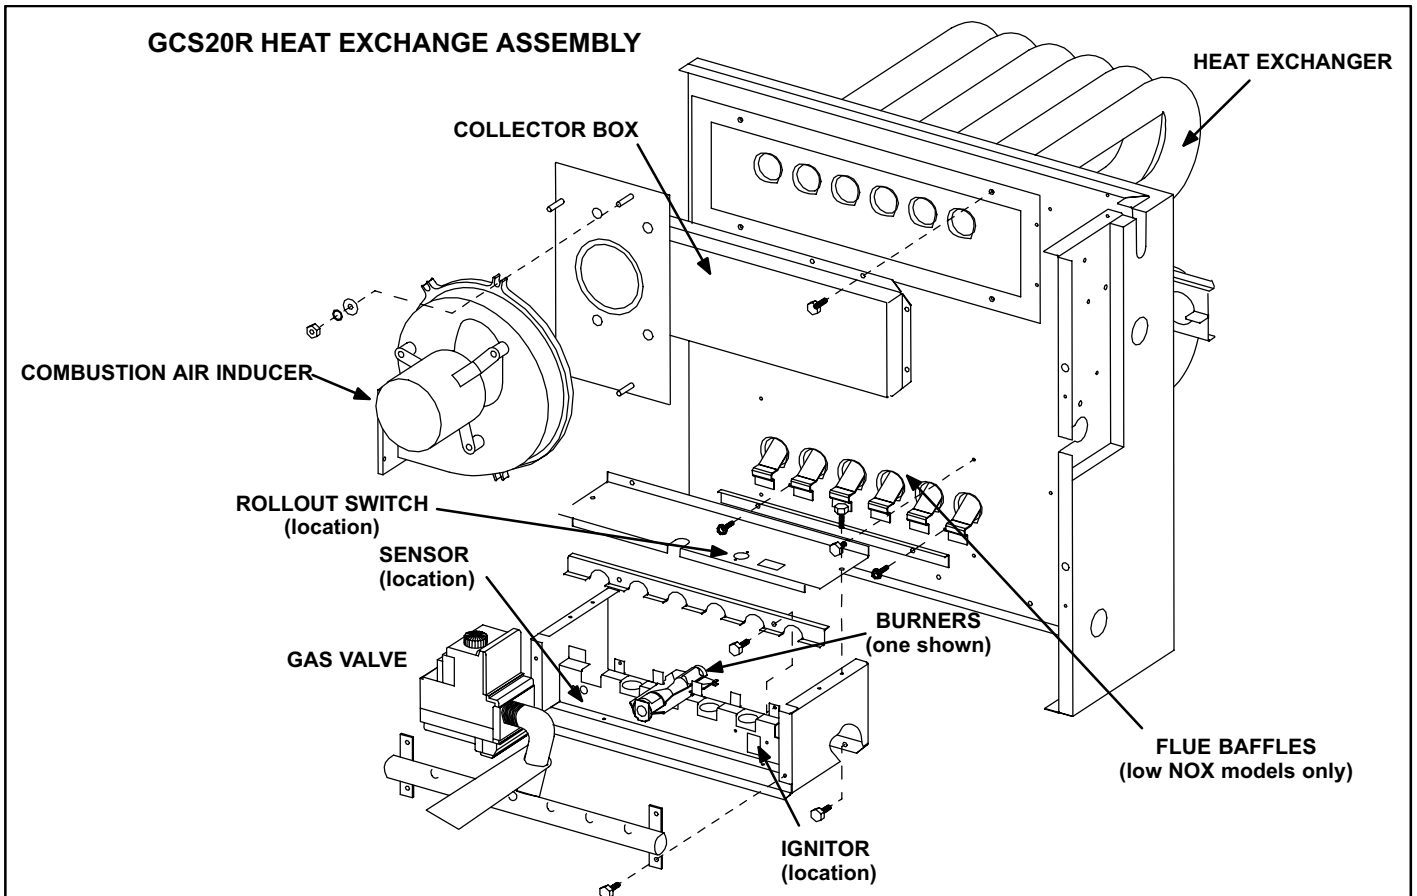
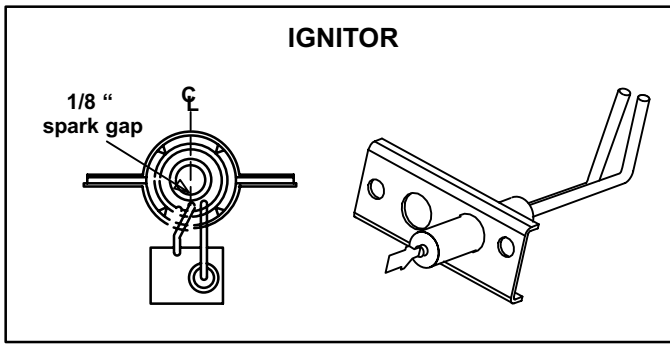

FIGURE 4
FIGURE 8
Heating components are illustrated in figure 4.
1-Heat Exchanger (Figure 4)
2-Burner Assembly (Figure 4)
Flame rollout switch S47 is a high temperature limit located just above the burner on all units. See figure 4. The limit is a N.C. SPST manual reset thermostat connected in series with ignition control A3. When S47 senses flame rollout, ignition control immediately stops ignition and closes the gas valve. The switch is factory set to open at $180^{\circ}\text{F} \pm 8$ ($82^{\circ}\text{C} \pm 1.3^{\circ}$) and cannot be adjusted. S47 on GCS20R(X) units will open at $200^{\circ}\text{F} \pm 12^{\circ}$ ($93.3^{\circ}\text{C} \pm 11^{\circ}$).
Ignitor tips are located in the path of the right most burner. See figure 4. The spark electrode is connected to the ignition control by a 8mm silicone insulated stranded high voltage wire. The wire uses 1/4" female quick connect on the electrode end and female spark plug-type terminal on the ignition control end. See figure 8 for gap dimension.
The sensor tip is located in the left most burner path. See figure 4. Flame is sensed by rectification through the flame sensing electrode.